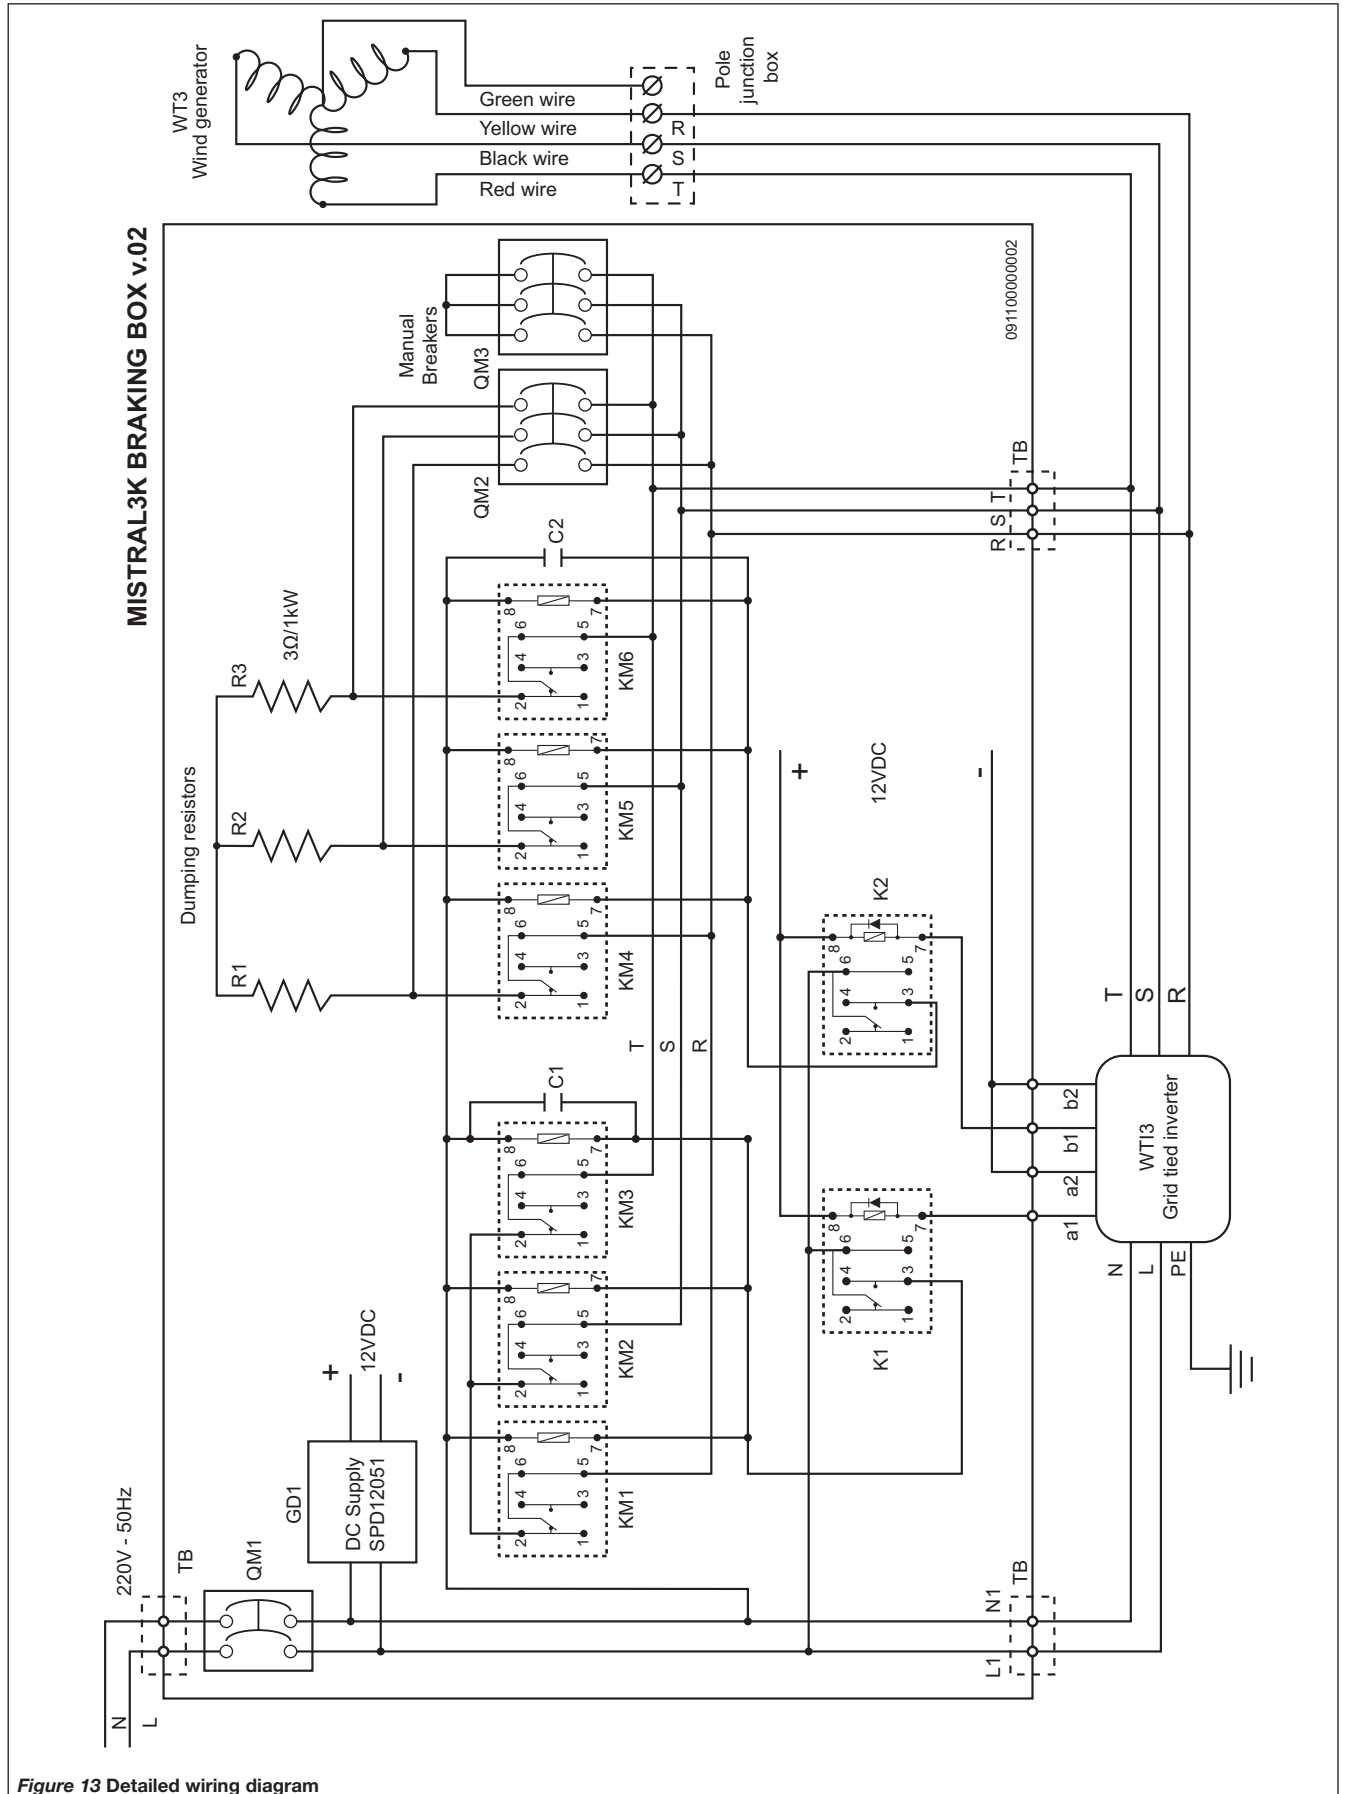

Figure 13 Detailed wiring diagram
Please connect electrical wire according to each contact marked with description. Regulated wire size as follows: See detailed wiring diagram in Figure 13.
The typical configuration of the braking box and relative components are shown on figure 13. Depending on wind speed and plant condition, the inverter drives two different electrical brakes. Through the inverter outputs: a1, a2 and b1 and b2, the relays KM1-KM3 and KM4-KM6 are switched ON or OFF in order to prevent any damage on turbine and inverter. One brake is done by resistor R1-R3, and this is the dumping brake. If the wind is keeping an high speed for a long period of time beside the dumping brake will turn on by mean inverter outputs a1 and a2.
02. As shown on Figure 13, there are nine wires from wind power inverter, they are R, S, T, L, N (12AWG), and a1, a2 (16AWG) short brake signal contact and b1, b2 (16AWG) resistor brake contact.
07. Grounding wire (PE) connected to wind power inverter and system grounding, please avoid connecting grounding wire with main line and ensure grounding is properly done.